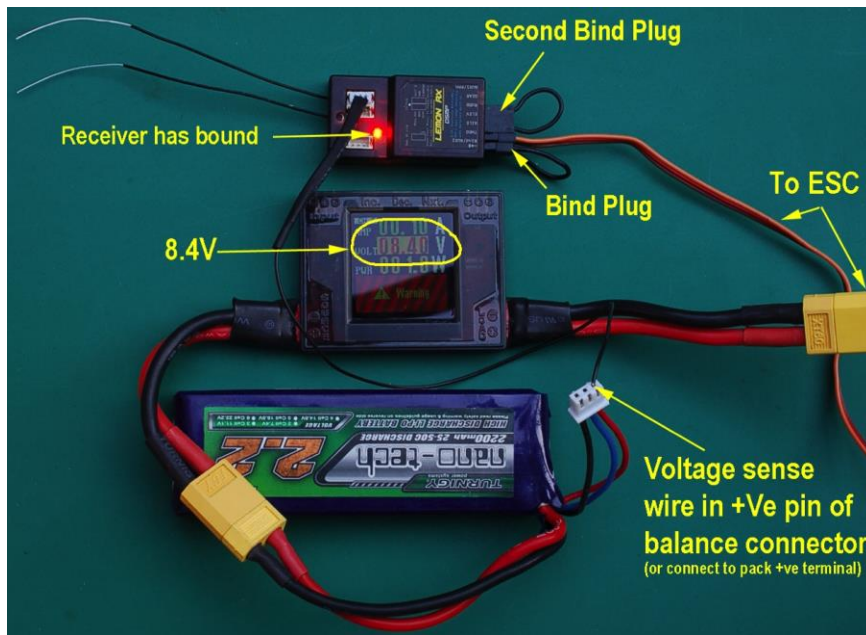

Figure A.2 – Voltage sensor wire connected to battery V+. Note the two bind plugs and wattmeter.
3. Connect the voltage sensing wire to the positive side of a 8.4V source. A fully charged two-cell (2s) lithium-polymer (LiPo) battery will provide an adequately accurate reference voltage. See Figure A.2.